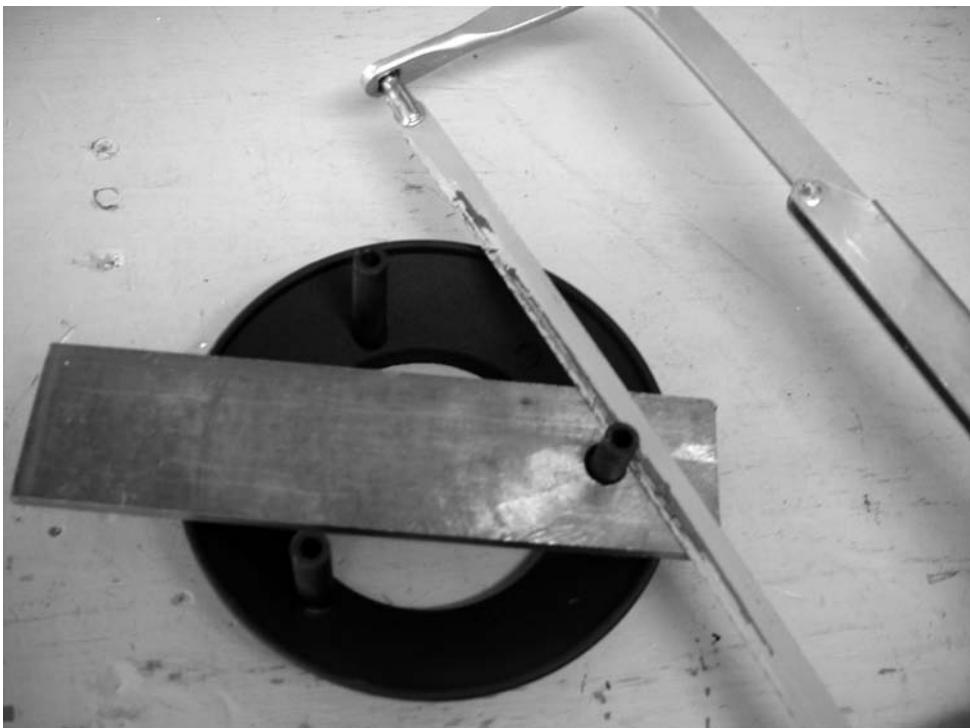

FIGURE 11-7: Shortening the legs with a cutting guide.
3. Cut the legs of each tier shorter. You want about a  $\frac{1}{2}$ - to  $\frac{3}{4}$ -inch gap between tiers. Measure the existing gap between the tiers and subtract  $\frac{1}{2}$ -inch to determine how much of the leg to cut off. Figure 11-7 shows a cutting guide constructed of metal stock that allows the unwanted portion of the leg to protrude. If you can’t find metal stock the correct thickness, try stacking several washers to get the correct height.